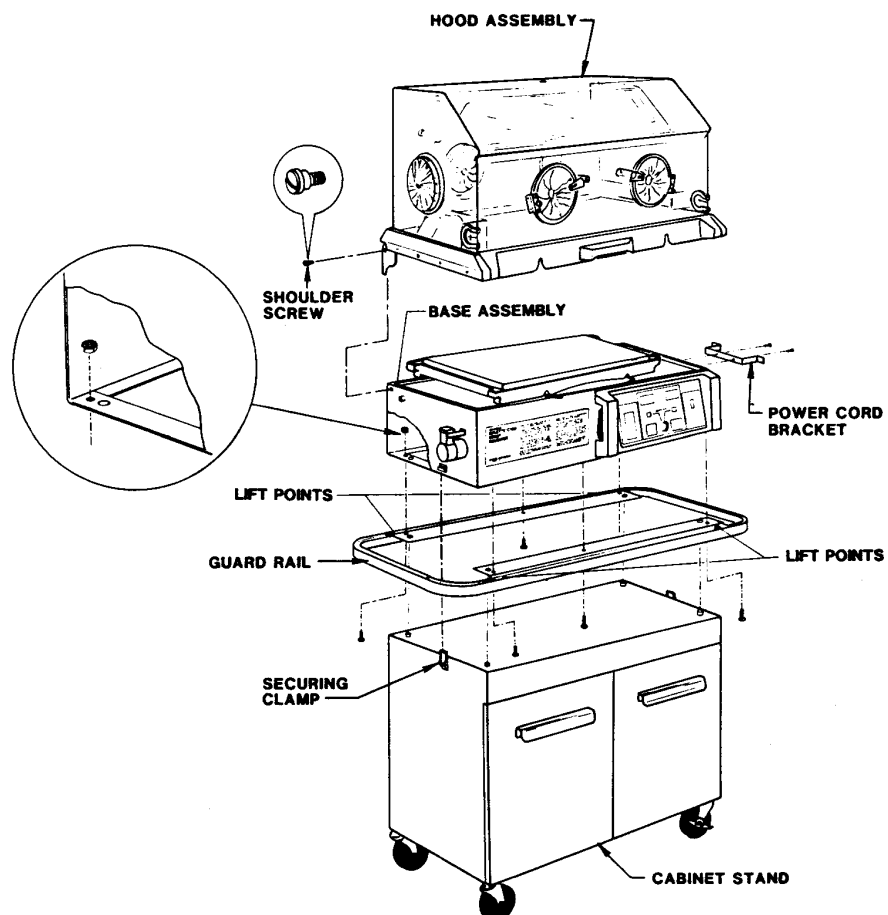

FIGURE 2.1 ASSEMBLY
1. Attach the Guard Rail to the underside of the Base Assembly using the 6 bolts and lock nuts supplied (see Figure 2.1).
2. Place the Guard Rail and Base Assembly on the Cabinet Stand as shown in Figure 2.1.
CAUTION: Refer to Figure 2.1 for lifting instructions.
4. Install the Hood Assembly on the Base Assembly as shown in Figure 2.1.
5. Assemble the power cord bracket onto the Base Assembly as shown in Figure 2.1.